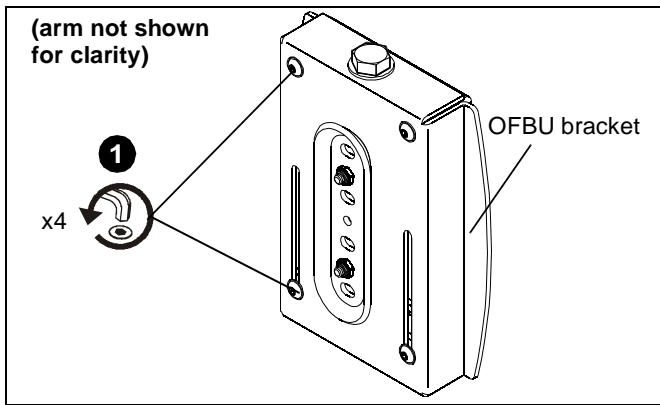

Figure 1
1. Verify mounting brackets on OFBU bracket can move freely. (See Figure 1)